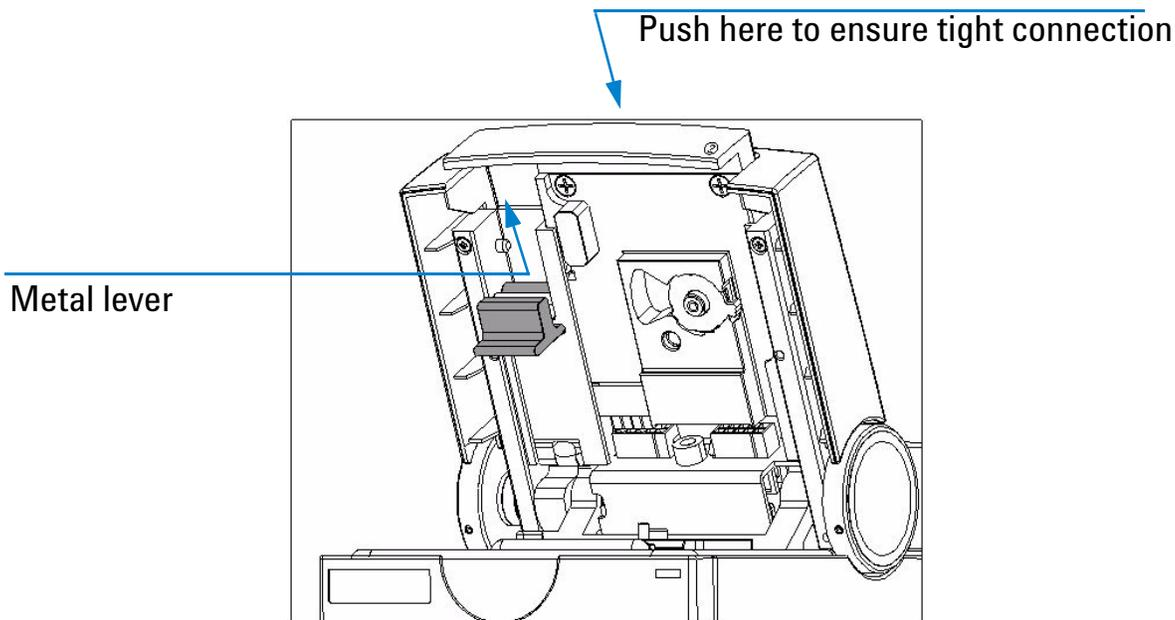

Figure 20 Inserting the pressure cartridge
- 7 Slide the Pressure Cartridge in the lid as shown in Figure 20, “Inserting the pressure cartridge”.